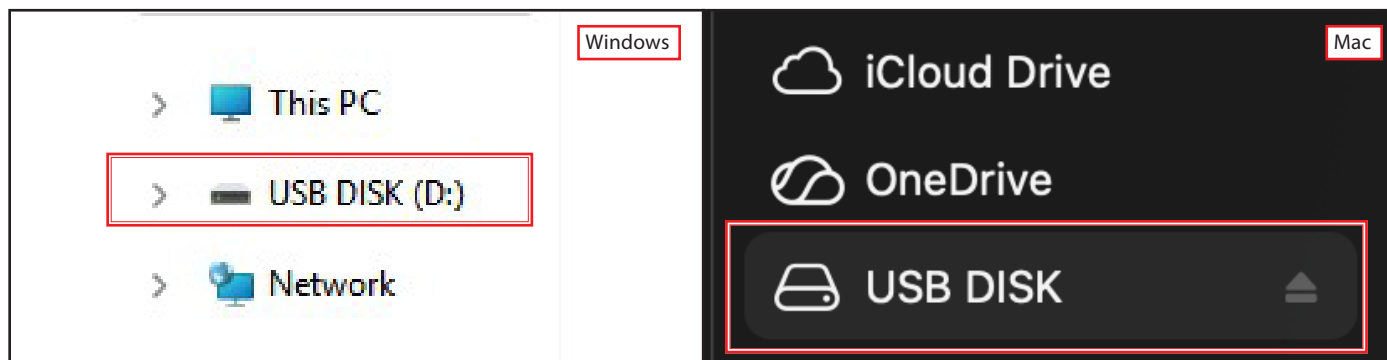

Fig. 9. Open the flash drive.
9. Open the flash drive. See fig. 9.